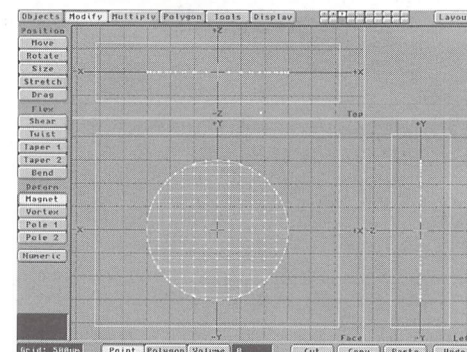

Figure 2
- Under the **Modify** menu, select the Magnet tool. With the left mouse button, drag out to cover the whole disc (Figure 2). Next, with the right mouse button, from the top view, drag out just a little, and you'll see the disc begin to curve outward. The larger the magnet area